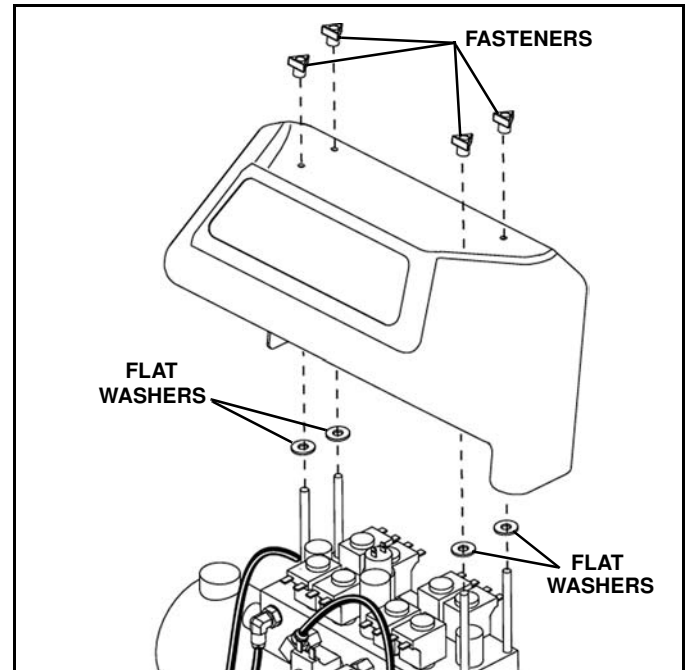

Figure 1-45
19. Ensure that a flat washer is on top of each of the four power unit cover studs and install the cover. Secure with four plastic fasteners. (See Figure 1-45).